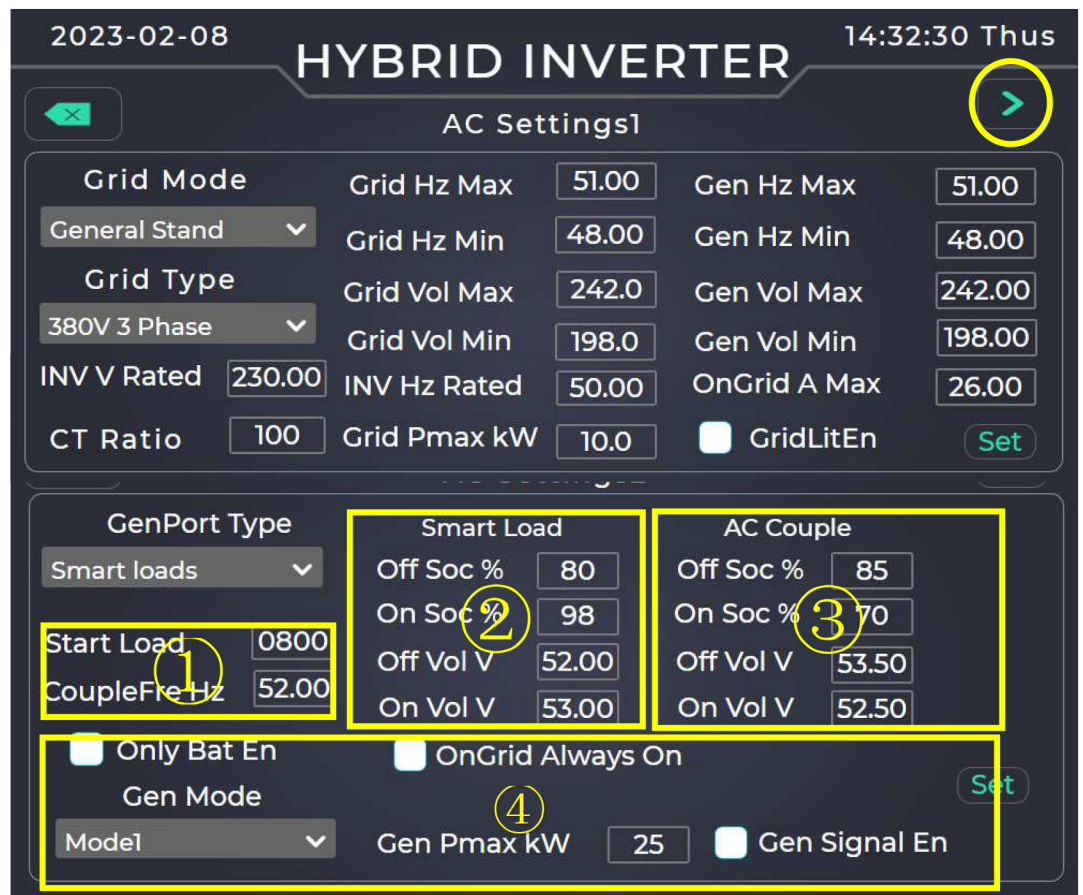

Figure 3.15 Grid Setting Interface
Bat Mode: Select one of "Lithium", "Use Bat V" or "Use Bat %" for all the setting. This will affect ②,③ in that Figure 3.12 and ②,③ in that Figure 3.15 settings below.
b. The second plate is the battery protection setting②
- **TempCorrEn** , When this option is checked, the temperature compensation of the float or average charge in ④ will take effect.
Click "Grid Setting" to set grid related parameters, as shown in Figure 3.15, including grid standard, upper and lower limits of voltage frequency, upper and lower limits of voltage value, grid frequency, GEN interface type, CT transformation ratio, Grid power limit, Genport function setting, etc.
- When selecting the Gen connected to the GEN interface, please confirm that the control line of the Gen is also connected to the J8 terminal NO2&COM2 Gen adjustment control , NO1&COM1 Gen start control , select GenPortTypee as Generator in the grid setting interface in Figure 3.15. At this time, Select Gen Mode, choose one of the two Modes,when the grid is powered off, the diesel generator will automatically start up to supply power to the system.
- When selecting the smart load connected to the GEN interface, select GenPortTypee as Smartloads in the grid setting interface in Figure 3.15, and the Gen relay will be turned on at this time, and the GEN interface will supply power to the smart load for output.
Definition of function settings in number ② in Figure 3.15:
- When selecting the smart load connected to the GEN interface, select ACCouple as GenPortTypee in the grid setting interface in Figure 3.15, and then ACCouple and the grid supply power to the system together.
Definition of function settings in number ①③④ in Figure 3.15:
Click the CT Ratio data box in the grid setting interface in Figure 3.15 to set the CT transformation ratio. When the model of transformer is 100:50mA, the interface value shall be filled with 100. If the transformer is 150:50mA, the value should be 150.